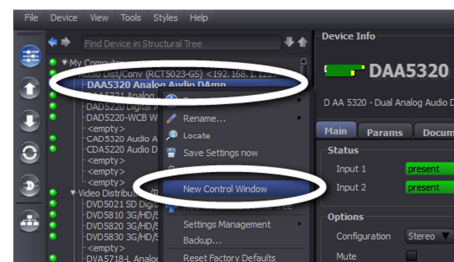

figure 21: Example, Step 9:Open
Step 9 (figure 21)
Step 10 (figure 21)